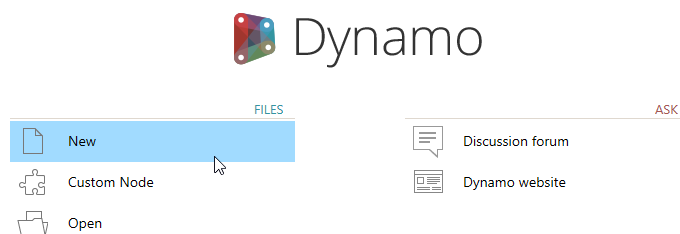

FIGURE 7
- From the Manage tab, launch Dynamo and then click the New button on the welcome screen, to create a new Dynamo file (also called a "graph") (see Figure 7).